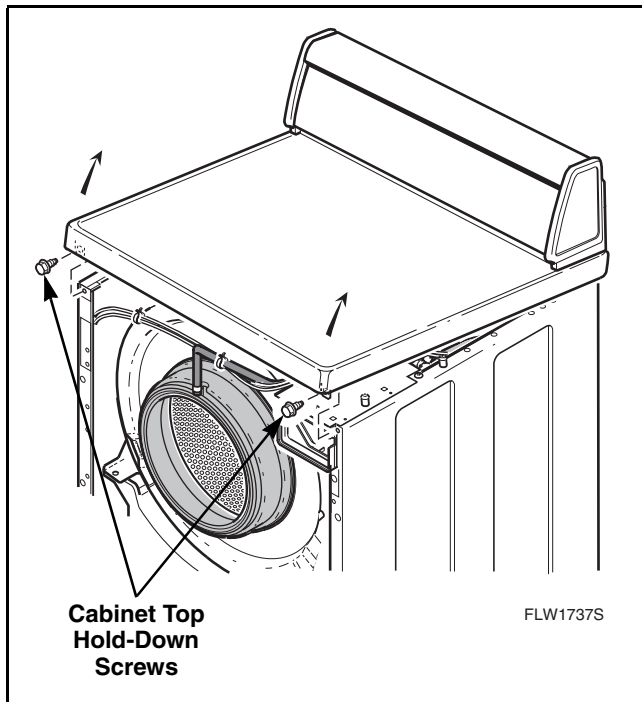

Figure 12
- j. Remove two screws holding front of cabinet top to front flange of side panels. Refer to *Figure 12*.
- (10) Remove two screws holding front of cabinet top to front flange of side panels. Refer to *Figure 12*.